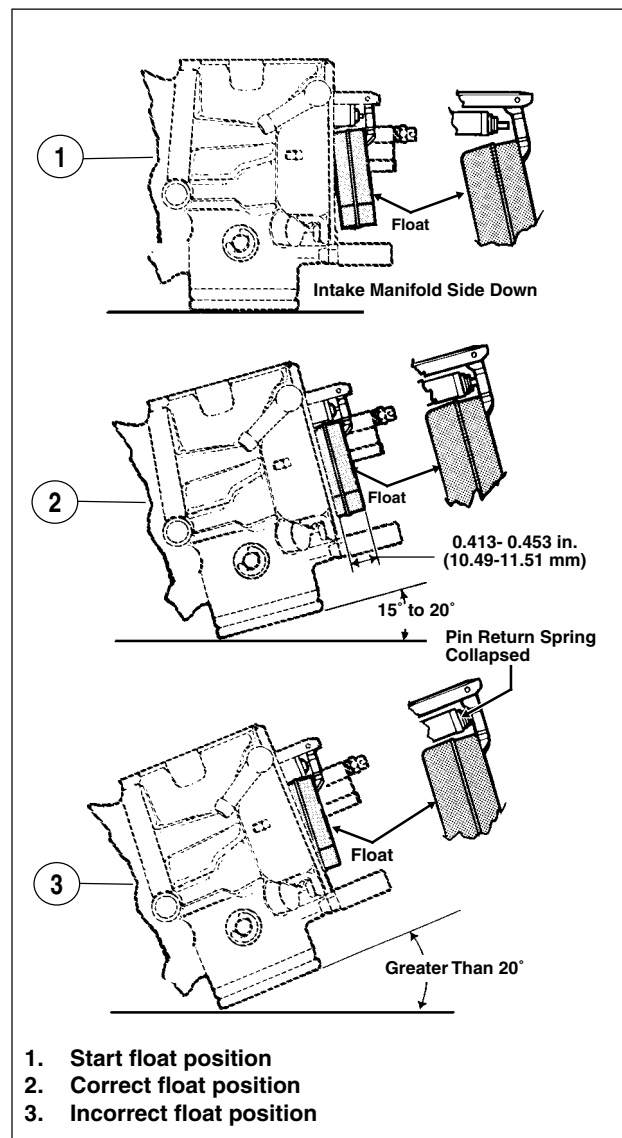

Figure 4-16. Float Check and Adjustment
- a. See Figure 4-16. Place carburetor on a clean flat surface with the intake manifold side down.